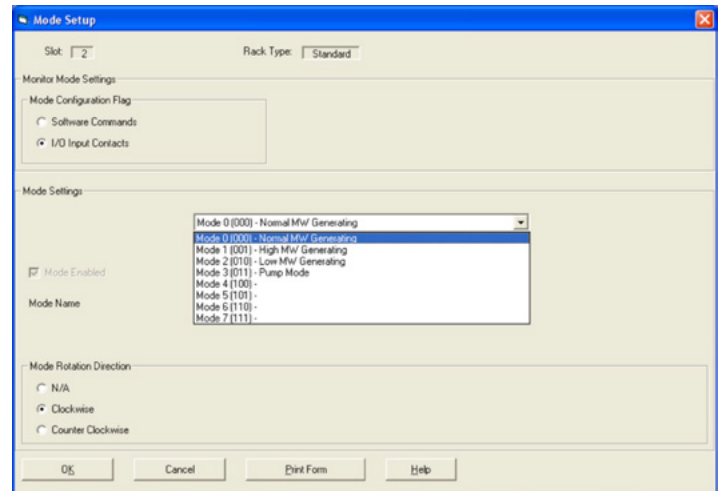

Figure 2: Mode Setup dialog in 3500 Configuration Software. Mode drop-down list shows that four modes have been defined in this example.
Pumped-storage units have two directions of rotation with vastly different hydraulic conditions. Kaplan units with adjustable blade angles can have significantly different levels of “normal” vibration, and any hydro turbine usually has at least one zone of high vibration associated with certain unavoidable head, speed, and load conditions. To accommodate these situations, the 3500/46M has a “Multimode” feature that allows you to establish up to eight (8) distinct machine modes, each with its own unique set of alarm parameters. The user-defined modes are enabled and named in the 3500 configuration software (Figure 2). Typical modes would accommodate operating conditions such as forward rotation, reverse rotation, loaded, unloaded, high head, low head, etc.